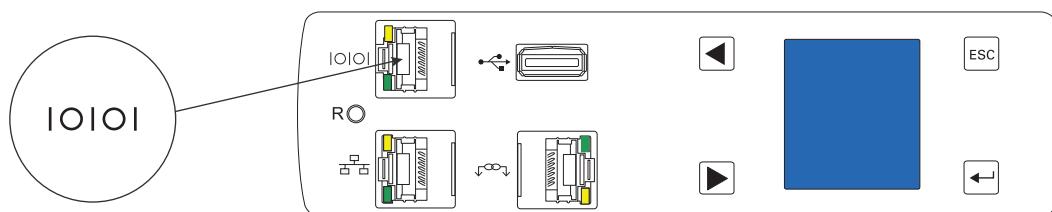

Figure 18. Connecting to a Computer Serial Port
3. Connect the RJ-45 end of the cable to the RS-232 connector on the front panel of your PDU model (see Figure 18). Connect the DB9 end of the cable to the serial connector on the computer.